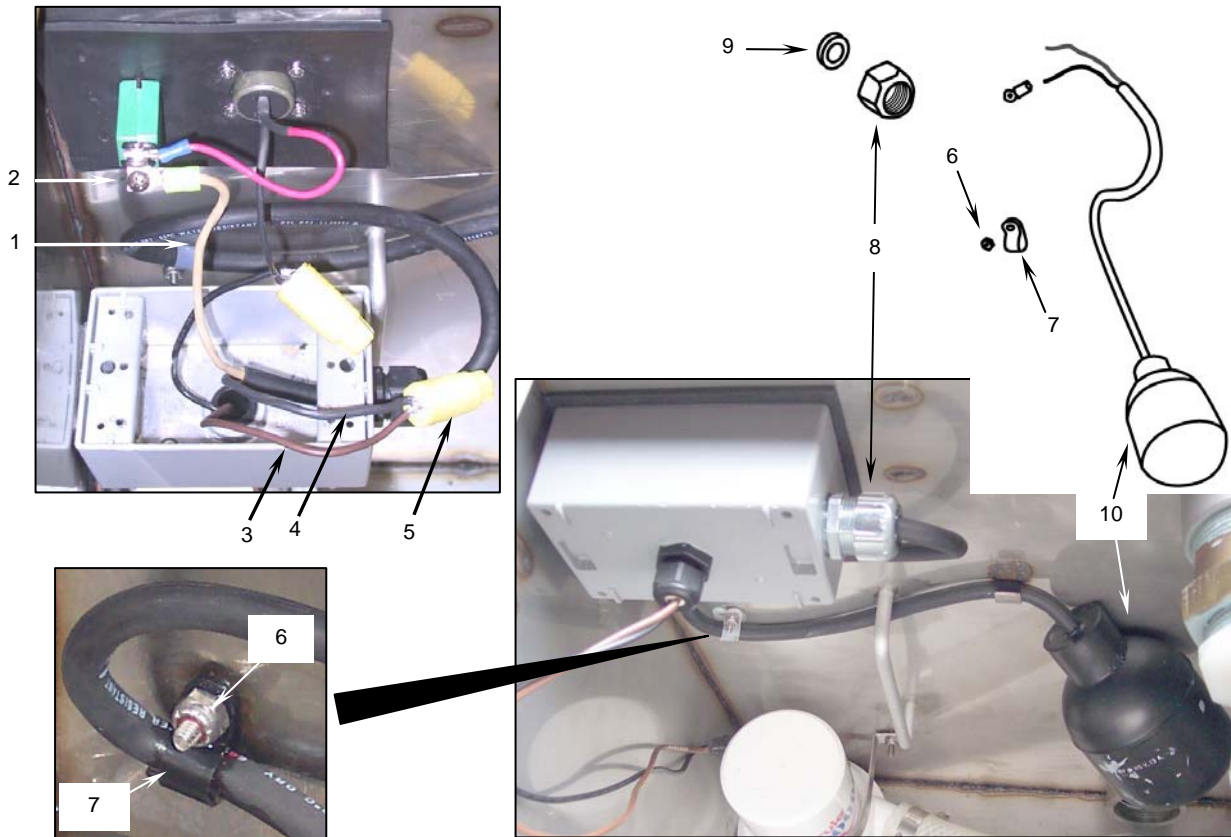

Figure 4. Removing the Grease Separator Float Switch.
3. Disconnect the white float switch wire (**Figure 4, Item 1**) from the circuit breaker terminal (**Figure 4, Item 2**).
4. Tag the brown pump wire (**Figure 4, Item 3**) that is connected to the black float switch wire (**Figure 4, Item 4**). Remove and discard the wire nut (**Figure 4, Item 5**) and separate the wires.
- a. Remove the self-locking nut (**Figure 4, Item 6**) and the loop strap (**Figure 4, Item 7**) that secure the float switch cable to the wall of the grease separator.
- b. Loosen the float switch cord connector nut (**Figure 4, Item 8**) with its sealing washer (**Figure 4, Item 9**) and pull the float switch cable out.
- d. Lift the float switch (**Figure 4, Item 10**) out of the pump compartment and discard.